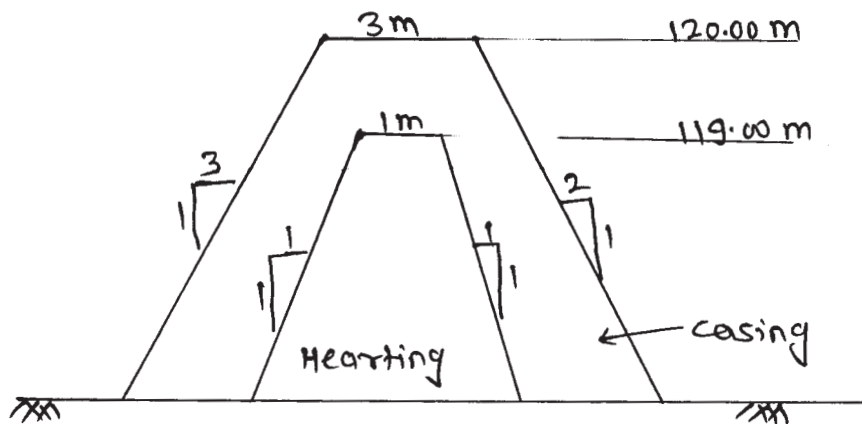

Fig. No. 2
- a) Work out the quantity of earth work in hearting and casing for earthen dam section given in Fig. No. 2. Use the data from table given below.